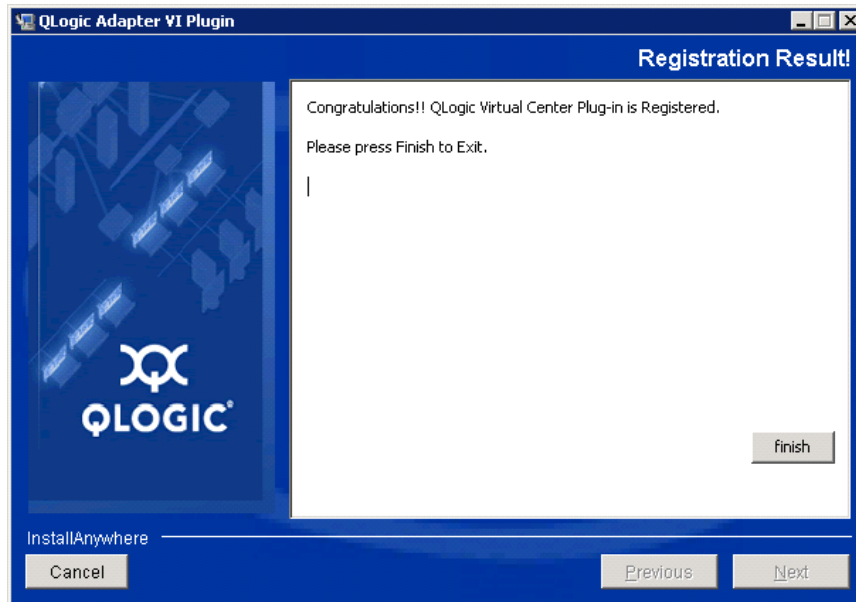

Figure 2-16. QLogic Adapter VI Plug-in Wizard: Registration Result
6. When the Registration Result window (Figure 2-16) appears, click **Finish** to exit.